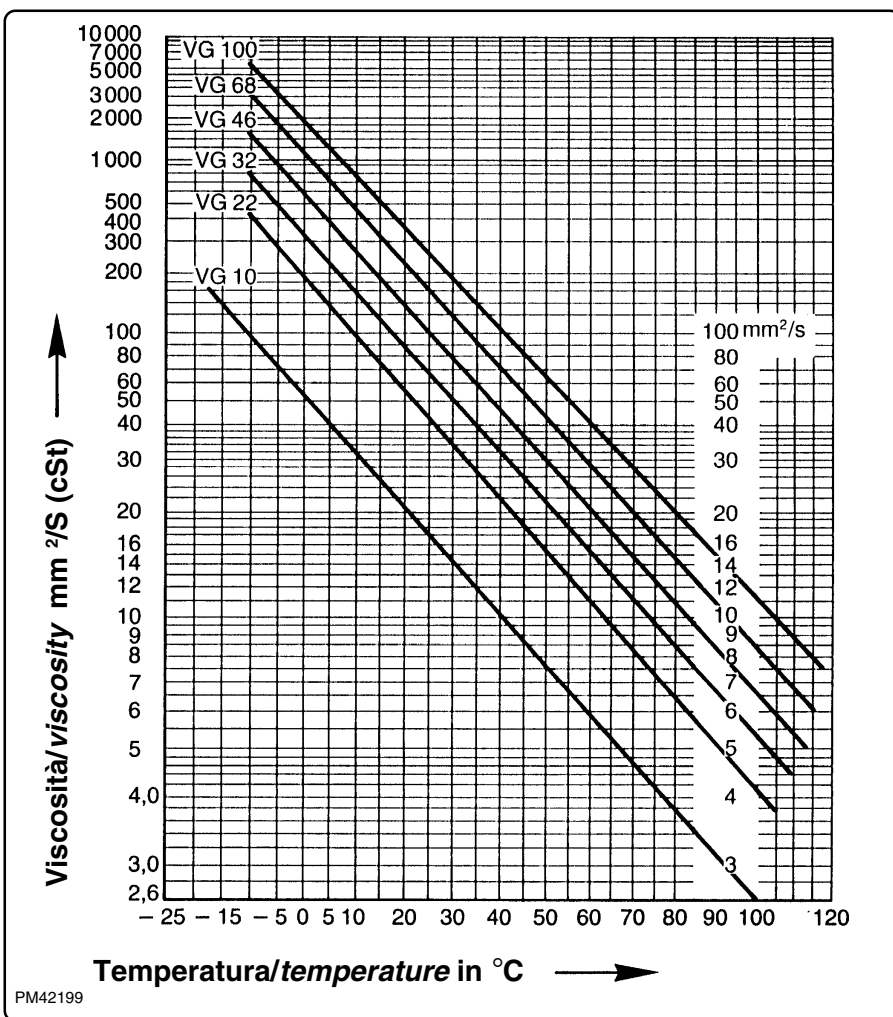

fig. 8.22.1
*Figure 8.22.1 contains a viscosity-temperature diagram of hydraulic oils in the various ISO classes.*